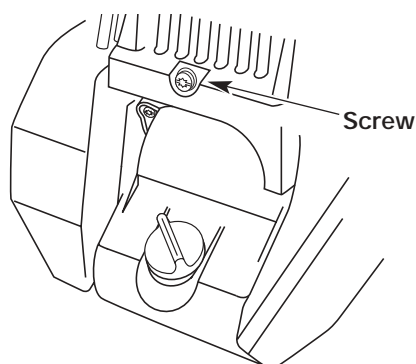

Fig. 64
3. Remove the screw behind the engine cover (Fig. 64).